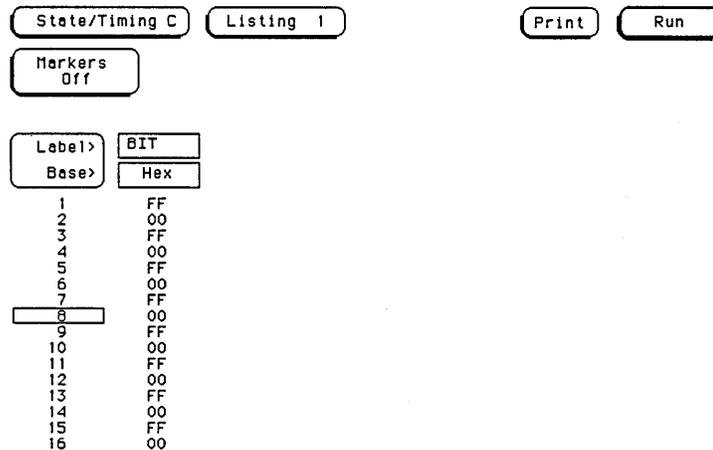

Figure 3-23. Listing Screen
- Touch **Run**. The **Listing** screen will be displayed showing alternating F's and 0's for the channels under test as in figure 3-23.